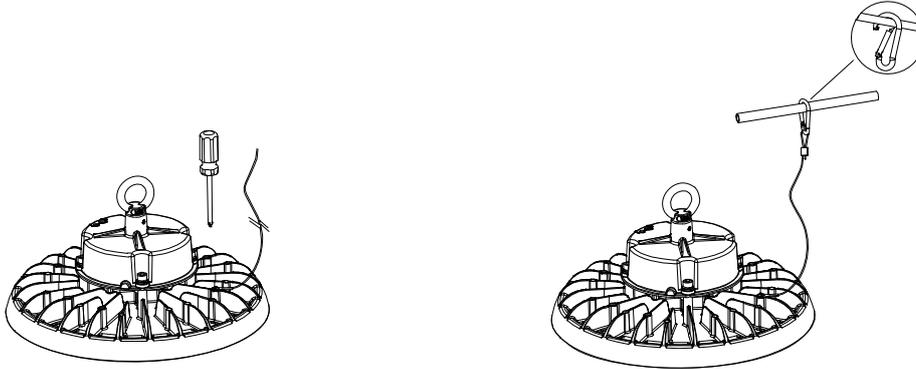

Figure 15
Step1. Fix the safety rope on the lamp body with screws. (Figure 15)